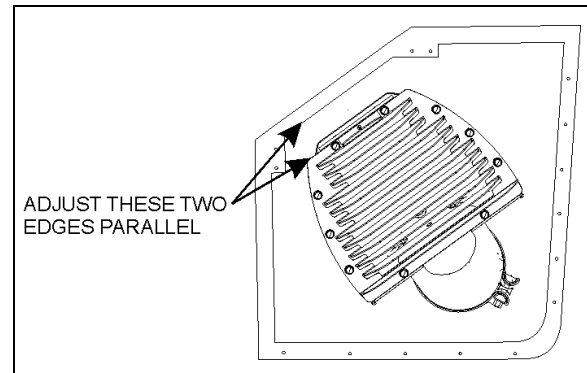

FIGURE 10: DIFFUSER POSITION ADJUSTMENT 04015_1
- For proper angular position, make sure that the two edges shown on figure 10 are parallel with each other.